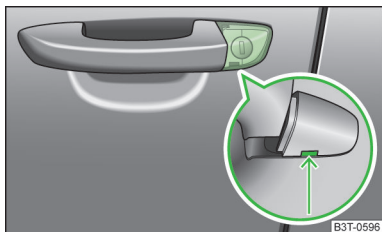

Fig. 189
- Push the vehicle key into the recess on the bottom side of the cover in the region of the arrow and fold it upwards » Fig. 189.